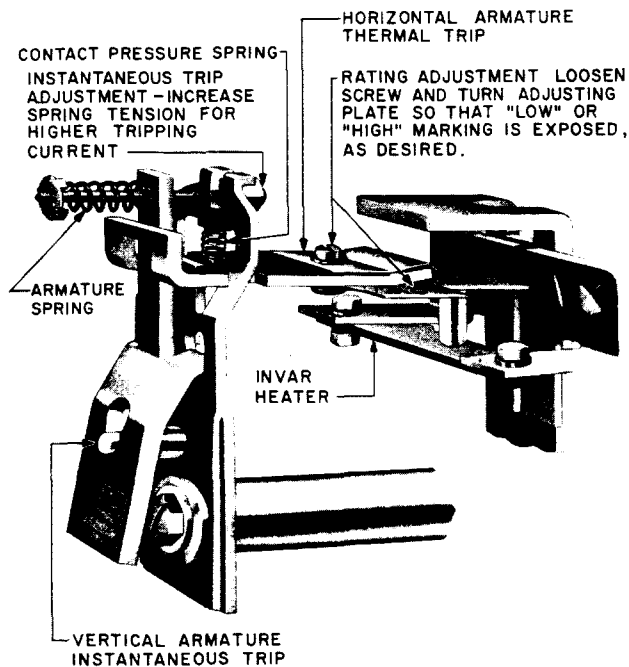

Fig. 7 - Adjusting TI-2 Relay
- (1) To adjust the instantaneous overload trip, change the tension in the armature spring by moving the adjusting nut in or out on the screw as required.
- (2) To adjust the thermal overload trip, proceed according to the instructions given in Fig. 7.
- (3) To obtain access to the contacts, remove the cover at the top of the relay, which is held in place by a knurled nut.
- (4) If the contact pressure is below the minimum, stretch the contact pressure spring as required.